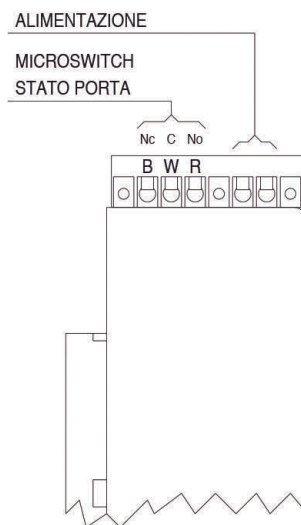

Fig.2
- 2) VERSIONE CON 1 MICROSWITCH (Fig.2)